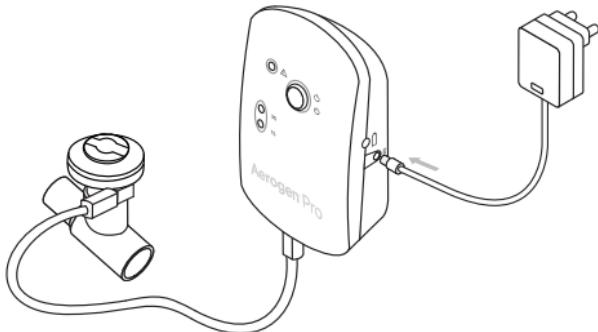

Figure 5. Connecting the AC/DC Adapter
- 5** To operate on AC power (the primary mode of operation), connect the Aerogen Pro AC/DC adapter to the Aerogen Pro controller and plug the adapter into an AC power source (Figure 5).